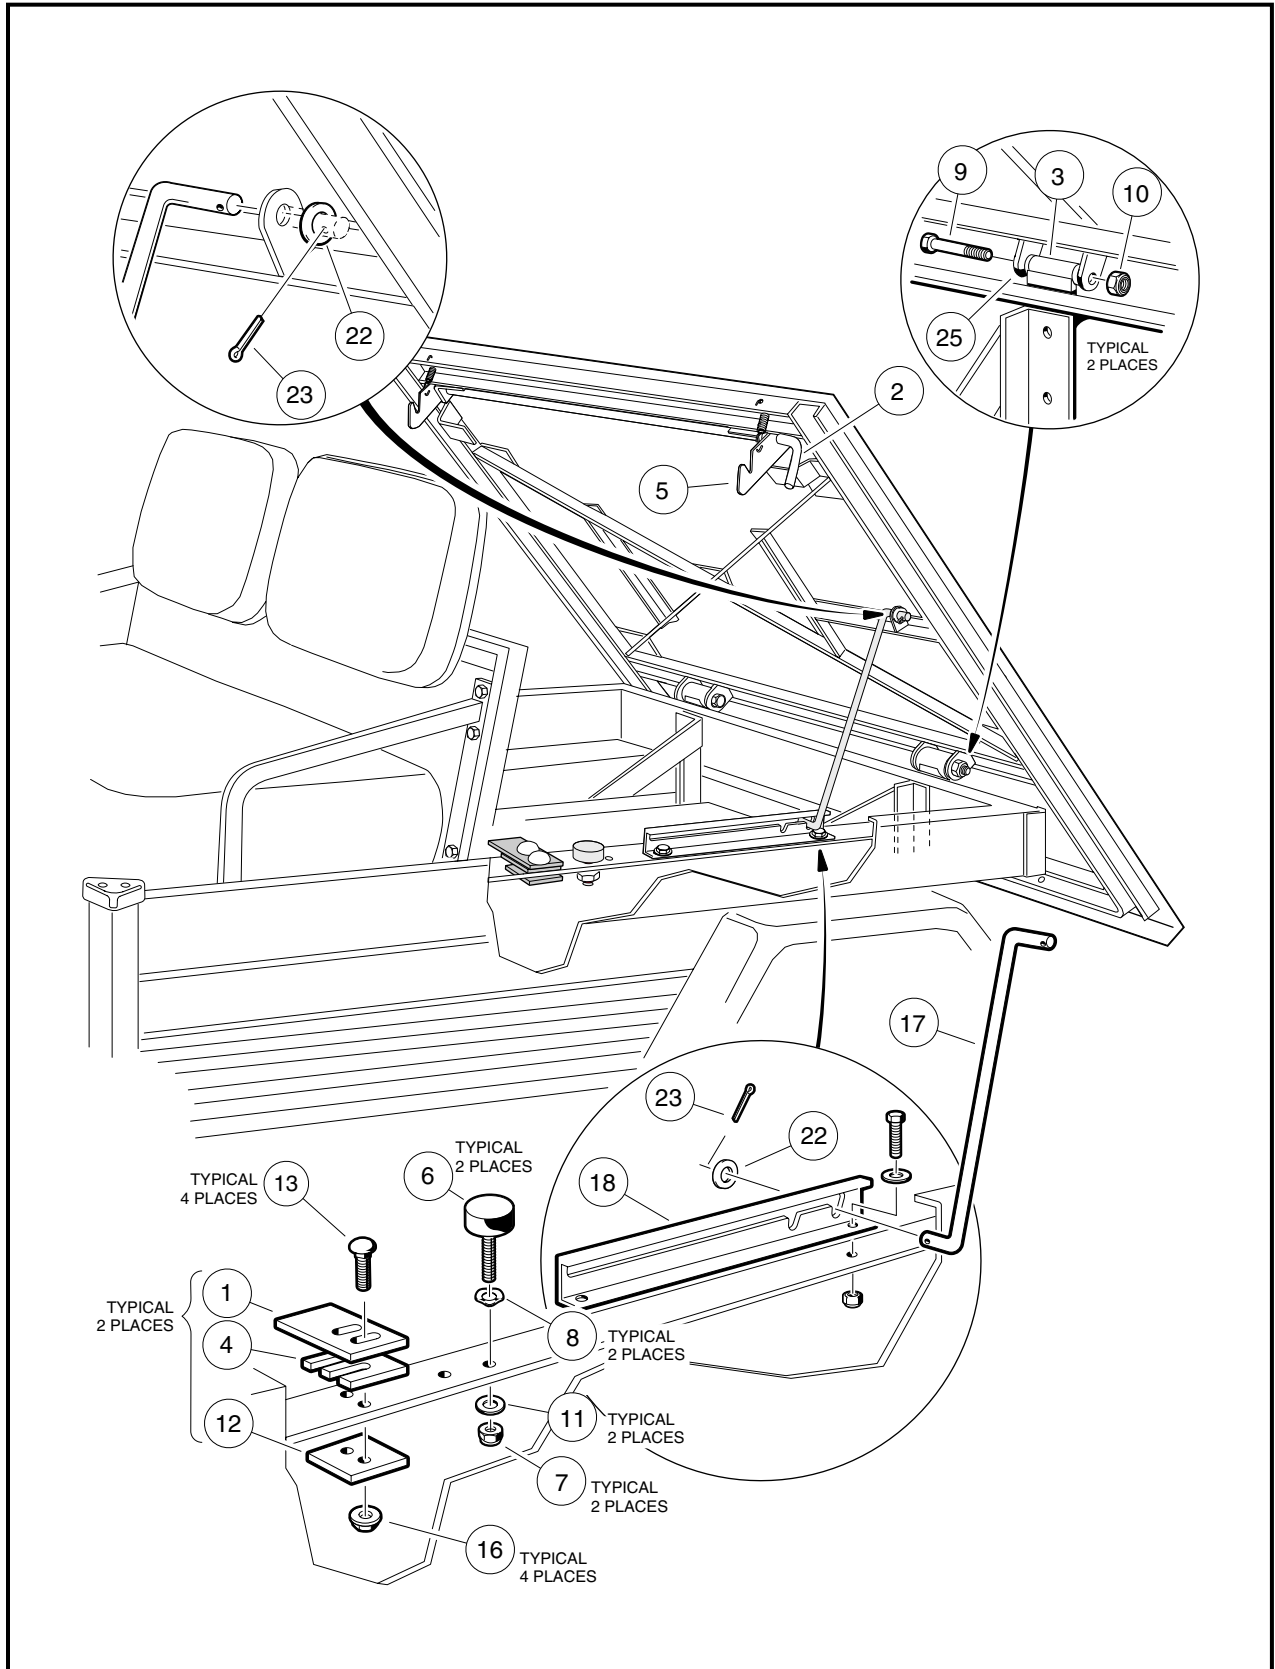

Figure 4-2 Tilt Bed – Turf 1, 2, Carryall 1, 2, and 2 Plus
1. **Turf 2, Carryall 2, and 2 Plus only:** Raise bed and secure prop rod (17) in prop rod track (18). Hold bed securely in an upright position. Remove cotter pin (23) and flat washer (22) from top end of prop rod where prop rod attaches to bed. Remove prop rod (17) from bed and place prop rod between prop rod track (18) and rear body panel. Lower bed onto vehicle frame (**Figure 4-2, Page 4-7**).
2. Remove two lock nuts (10) from left and right tilt bed hinge assemblies (3).
3. Apply slight upward pressure (by hand) on the rear of the bed to relieve pressure on the hinges, and remove the hinge bolts (9) from the hinge assemblies.
4. Raise rear edge of bed approximately 6 inches (15.2 cm) and pull bed assembly toward rear of vehicle approximately 3 inches (7.6 cm) to release bed latch assembly (2) from latch plate (1).
1. Hold bed at a slight angle (front of bed lower than rear of bed) to vehicle and place front edge of bed onto vehicle frame. Bed latches (5) should engage with latch plates (1) (**Figure 4-2, Page 4-7**).
2. Lower edge of bed onto vehicle and align hinge brackets (3) with bed hinge (25).
3. Start the bolts (9) into left and right hinge assemblies (3 and 25). It may be necessary to use an alignment tool to align holes in hinge bracket with steel bushing in hinge assembly.
5. Install a nylon lock nut (10) on each bolt (9) and tighten to 15 ft-lb (21 N·m).
6. **Turf 2, Carryall 2, and 2 Plus only:** Lift bed and place the prop rod (17) in bed mounting hole. Install a 3/8 inch flat washer (22) and a new cotter pin (23) on prop rod (**Figure 4-2, Page 4-7**).